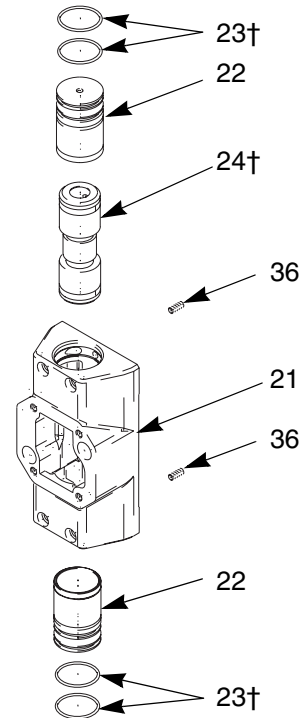

FIG. 7. Air Valve Piston Assembly
3. Remove the setscrews (36). Disassemble the piston assembly. See FIG. 7.